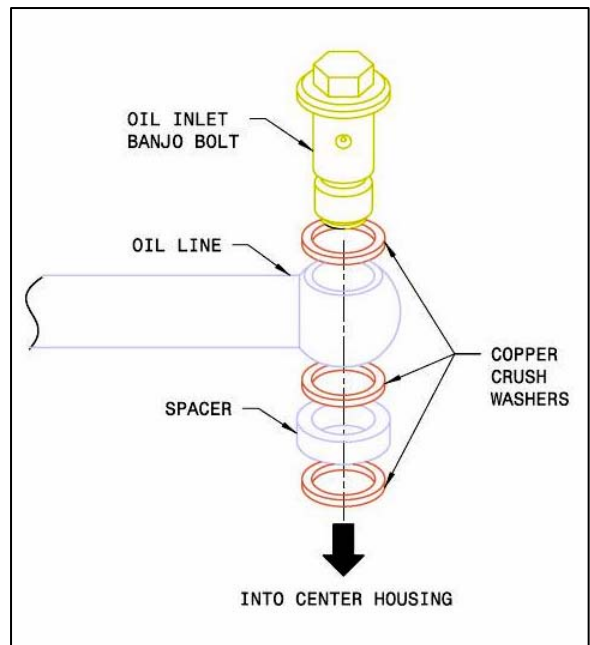
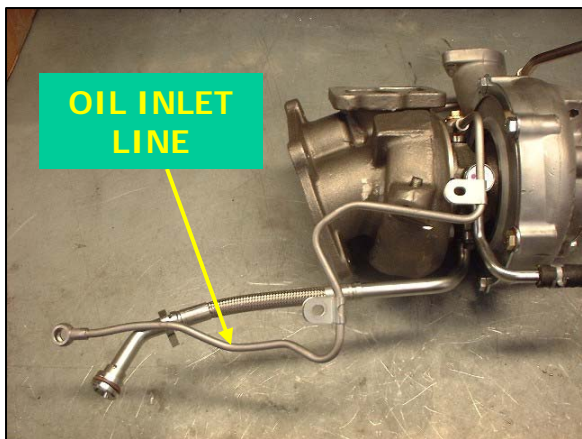

Fig. 33
Fig. 34
36. Install the OE oil feed line onto the top of the Garrett turbo center housing. Use the new banjo bolt supplied in the kit, along with the short steel spacer and the **three** new 12mm copper crush washers. Order of assembly **onto bolt**: 1st washer, oil line, 2nd washer, spacer, 3rd washer. The bolt, together with washers, spacer and oil line, is then installed into the center housing. Ensure that the crush washers stay centered and are not jammed by the bolt or spacer during installation. Snug the banjo bolt (do not tighten) so that the oil line can be adjusted on the vehicle. Bolt will be tightened later in step 43. See *Fig. 33* for assembly order. See *Fig. 34* for approximate orientation on turbocharger.
(Fig. 34 shows approximate orientation of oil inlet line on turbocharger. Do not tighten inlet bolt yet; oil line will need to be adjusted once turbocharger is installed on vehicle.)